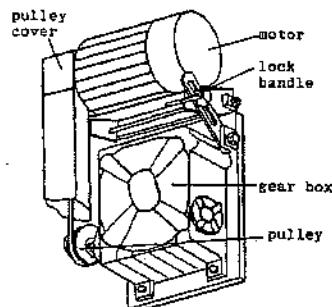

Fig. 4-2 : Speed Swap Configuration
2. Loosen the lock handle under the motor. (Shown in Fig. 4-2)